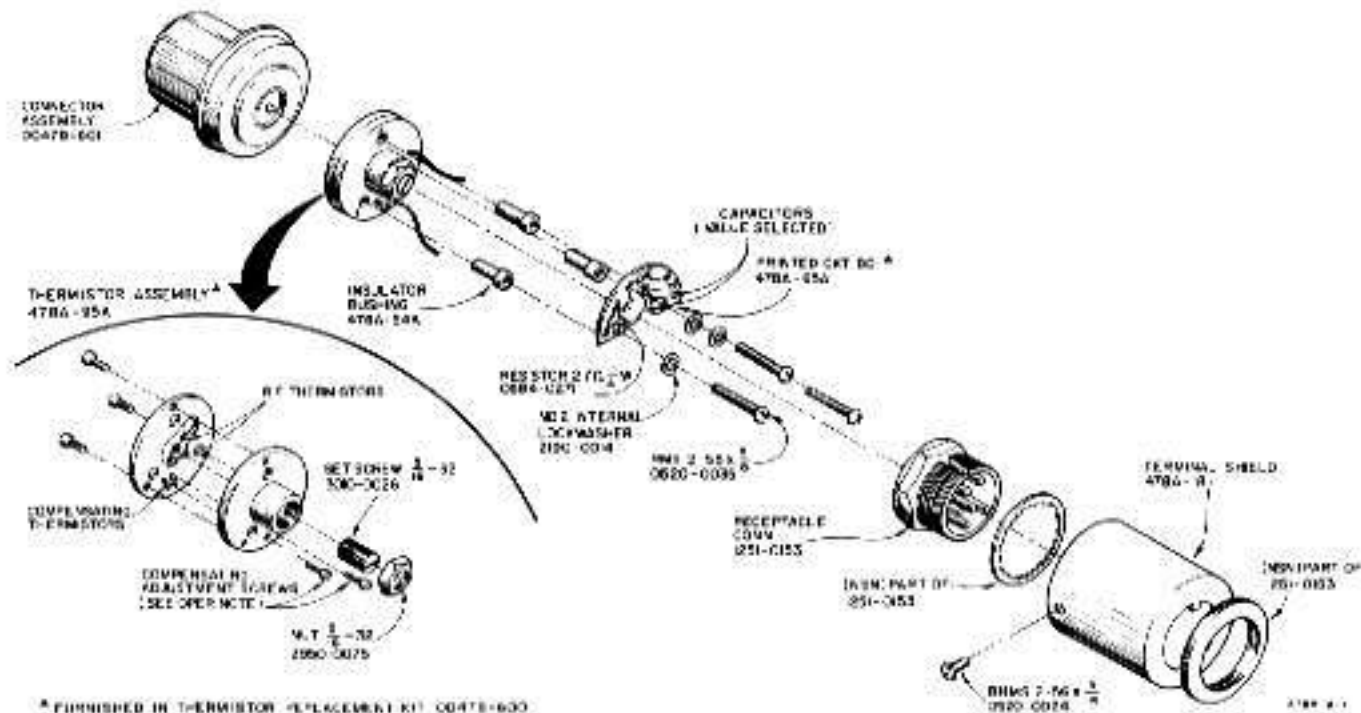

Figure 9. Model 478A Thermistor Mount Assembly
a. Remove three 2-56 x 3/16 screws holding Terminal Shield (Figure 9). Move Terminal Shield aside.